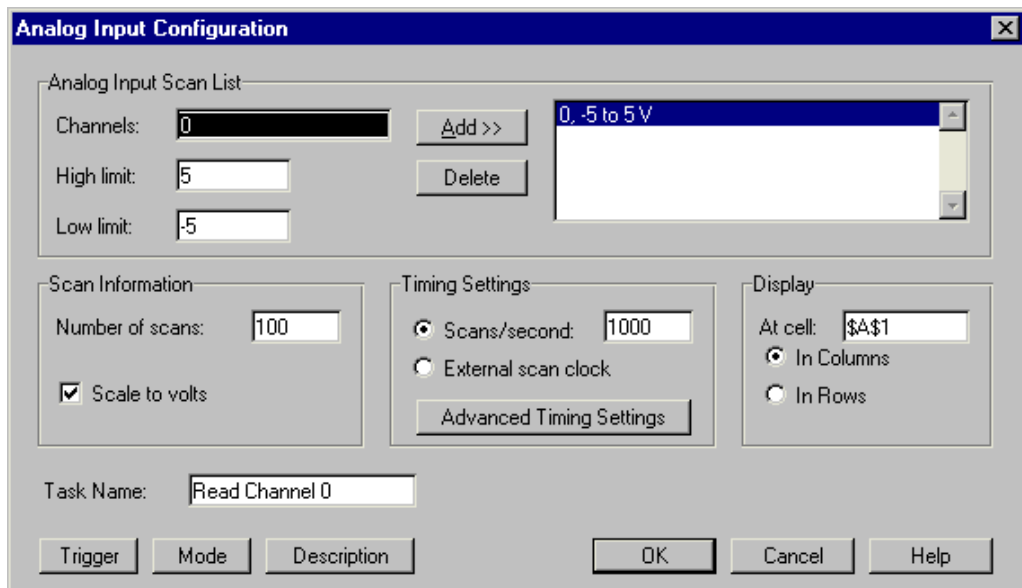

Figure 2-2. Analog Input Configuration
4. Click on the **AI** button under the heading Create a task to display the Analog Input Configuration dialog box, shown in figure 2-2.